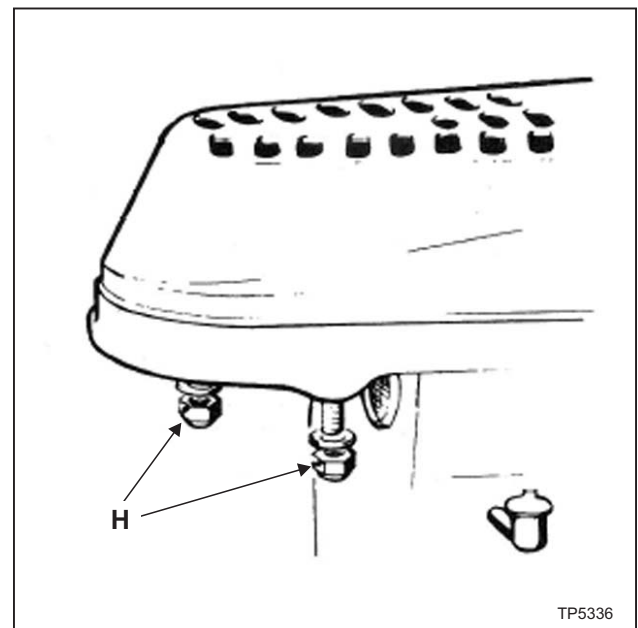

Figure 3.17 - E-Head Motor Removal
1. Loosen the two hex nuts “H”, Figure 3.17, on either side of belt housing.